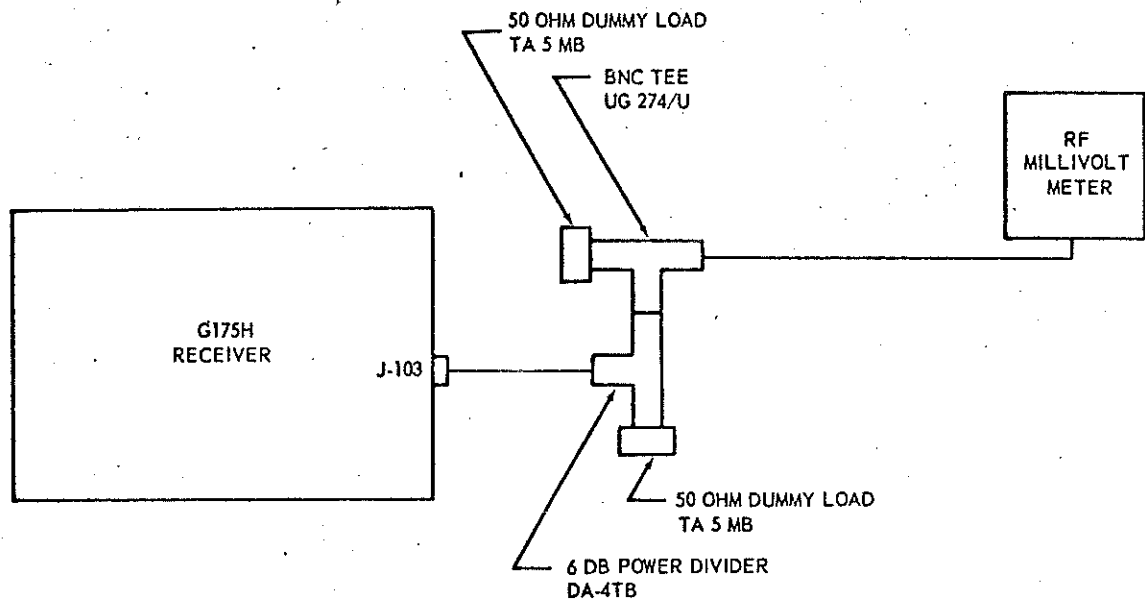

Figure 5-2
e. Connect the r-f voltmeter to the G175H as shown in figure 5-2.
f. Connect the r-f voltmeter to the G175H as shown in figure 5-2.